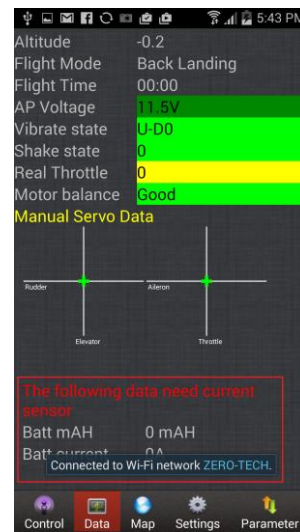

Figure 64
To use this function connect the power management module (to the A1 port on the X4V2), reduce the throttle to minimum and then power the flight controller. The current (A) and electricity consumption (mAh) will be displayed, as shown in Figure 64.